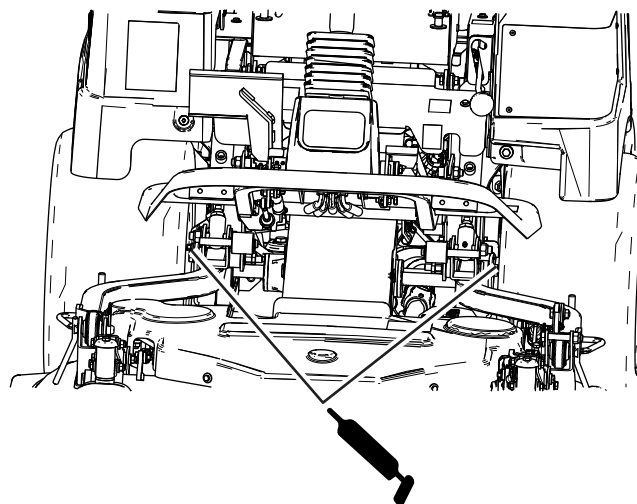

Figure 42
- Front wheel bearings (Figure 42)